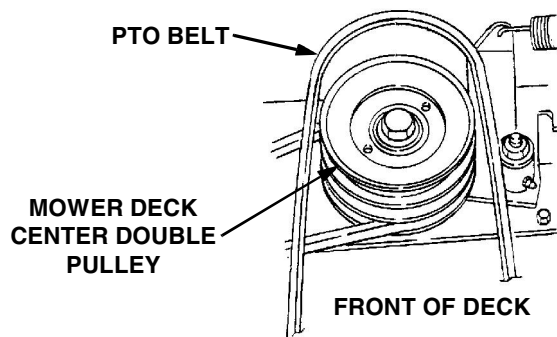

Figure 6-11
3. Remove the rearward end of the PTO belt from the upper pulley of the deck center double-pulley (Refer to Figure 6-11).